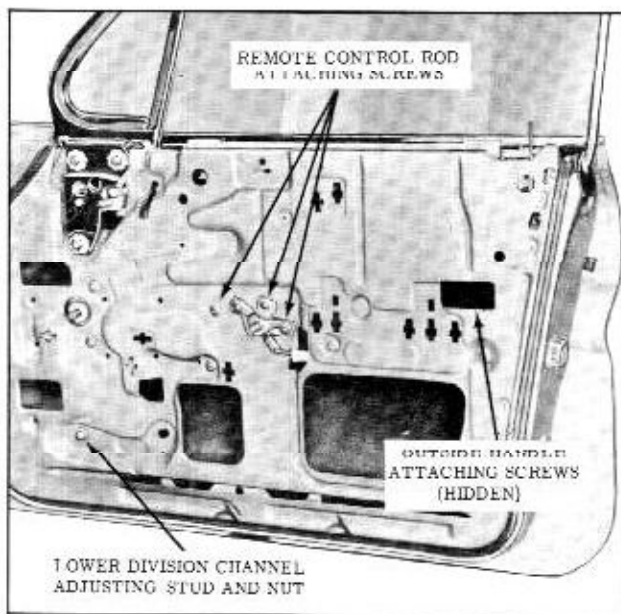

Fig. 17-27 Door Hardware Locations
2. Through access hole, remove screws securing outside handle to door outer panel and remove handle and gaskets. (Fig. 17-27)
2. Remove screws securing door inner panel cam assembly, then disengage cam from window regulator balance arm and remove from door. (Fig. 17-27)
2. Remove remote control attaching screws and disengage remote control from connecting rod. (Fig. 17-27)